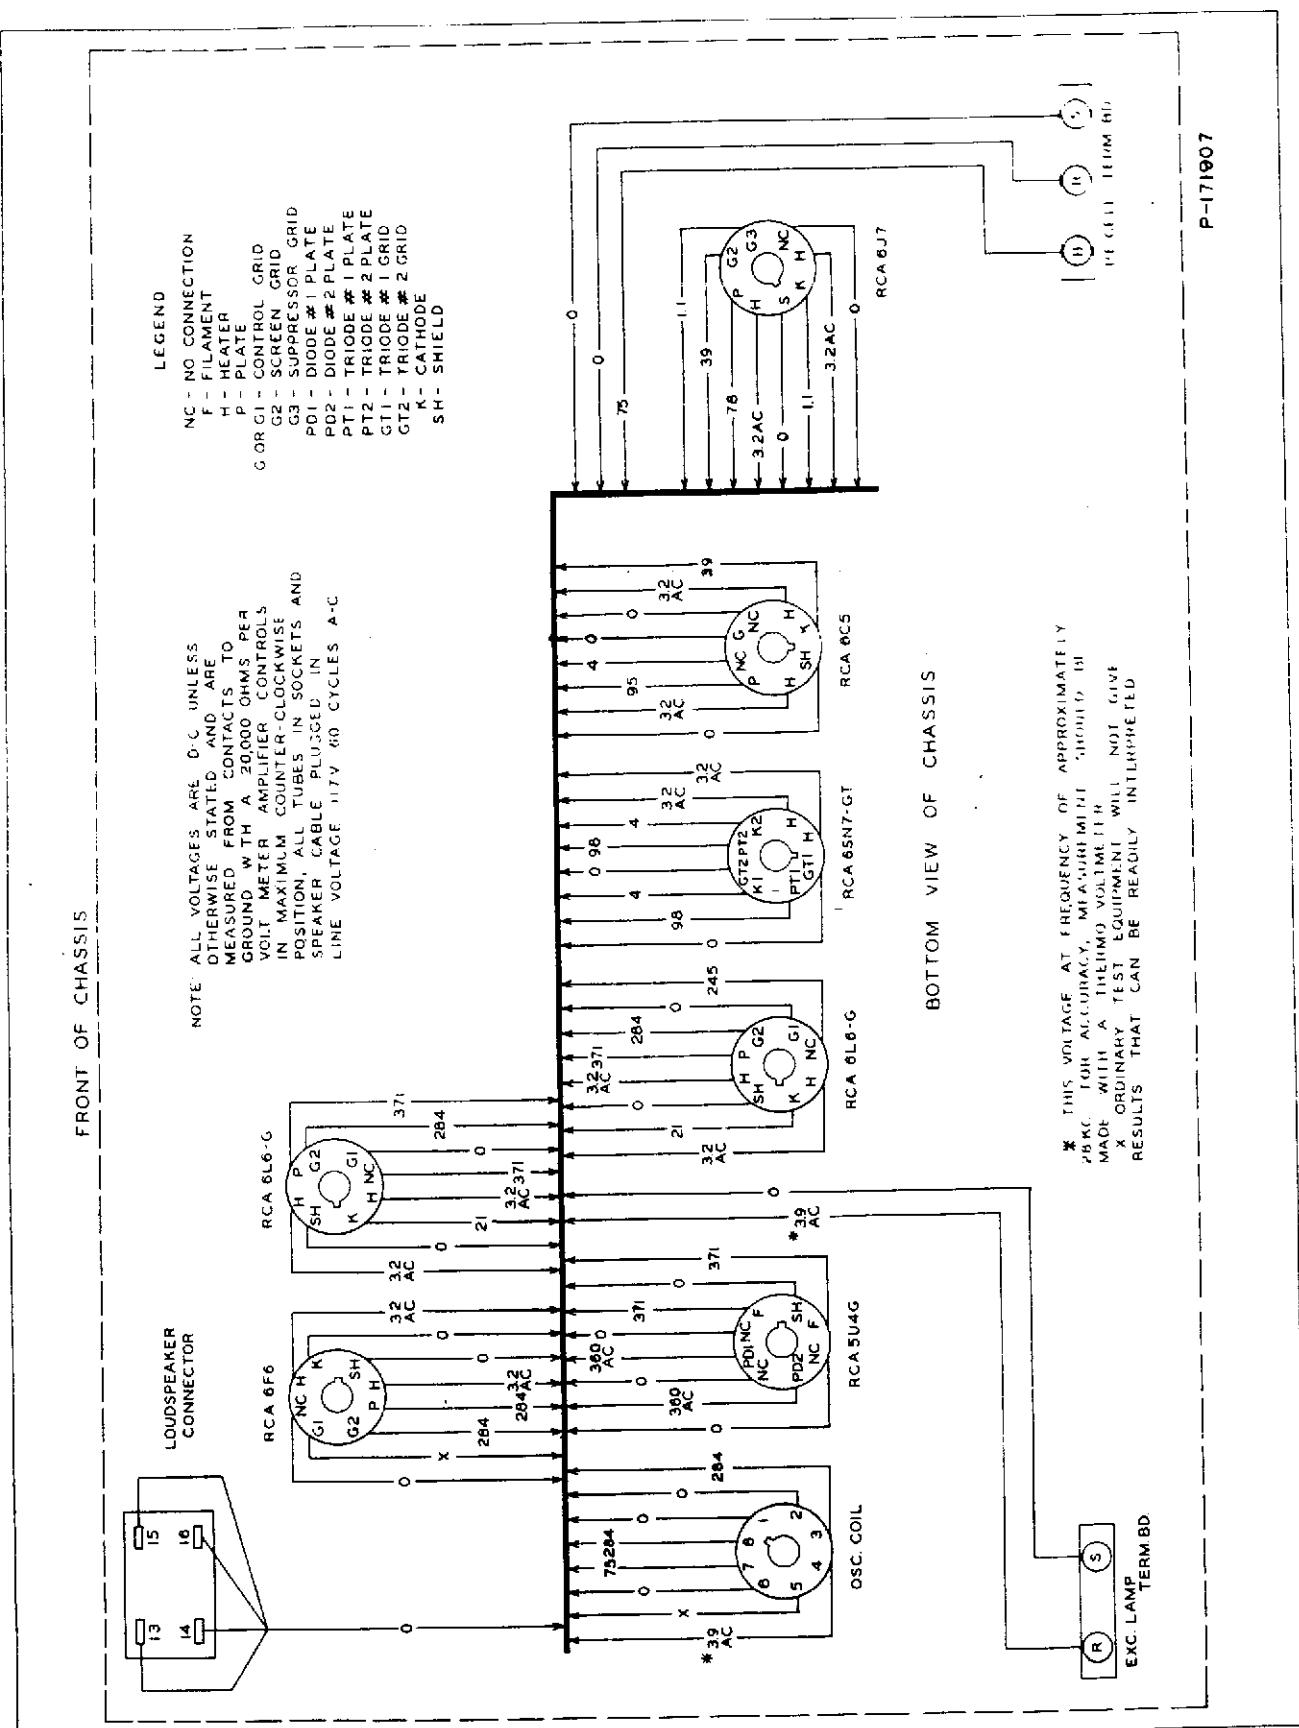

Figure 14—Socket Voltage Diagram
a. *Amplifier Voltage Data.* The socket-voltage diagram (fig. 14) shows the normal voltages between ground and the various terminals in the amplifier, when the voltages are measured under the conditions specified on the diagram. Any large deviations from these values, if they cannot be